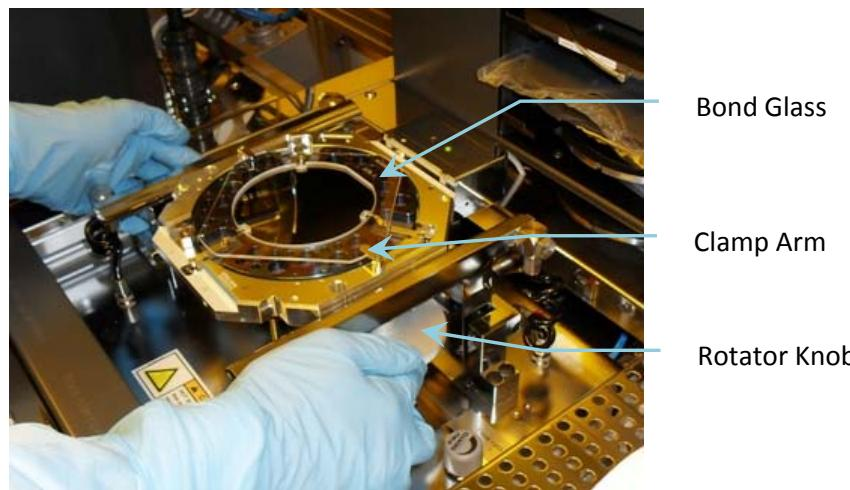

Figure 6, Bond Chuck Clamps
- 7.1.13 Place bond glass on. See *Figure 6, Bond Chuck Clamps*.
- 7.1.14 Rotate clamps inward. See *Figure 6, Bond Chuck Clamps*.